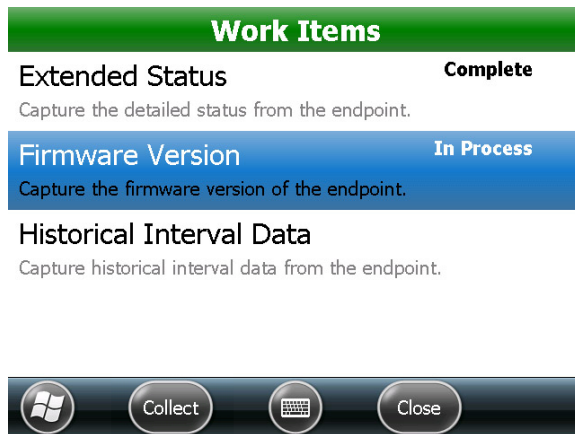

Figure 43: In process
*Result: "In Process" displays next to the Firmware Version field as data collection begins. See Figure 43.*